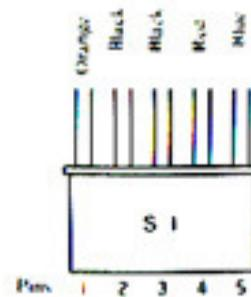

Figure 8-1
- ① Disconnect connector S1 from the main PC board.
- ② Check the voltage between pins 1 and 2 (pin 2 is the ground). If voltage is DC12V ~ DC15V or more, it is normal. If it is not normal, replace the power supply PC board. If it is 0V, check F202.
- ③ Check the voltage between pins 3 and 4 (pin 3 is the ground). If it is between DC4.75 and 5.25V, it is normal. If it is not normal, replace the power supply PC board. If it is 0V, check F201.
- ④ Check the voltage between pins 3 and 5 (pin 3 is the ground). If it is more than DC 10V, it is normal. If it is not normal, replace the power supply PC board (refer to figure 8-1).